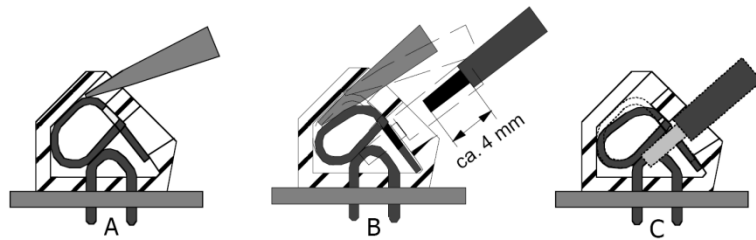

Figure 45 Connection in screwless spring-loaded terminals
- Insert a size 1 screwdriver in the upper opening and insert it turning slightly upwards (figure 45 A).
- Now place the stripped connecting wire in the lower opening and hold it there securely (figure 45 B).
- Withdraw the screwdriver. The connecting wire is then firmly fixed (figure 45 C).
The insulation of the connecting line must extend as far as the terminal indentation, i.e. there must be no further bare part of the connecting line visible above the terminal edge (as shown in figure 45 C). Touching live parts is dangerous to life. The stripped part of the connecting wire should be shortened if necessary.